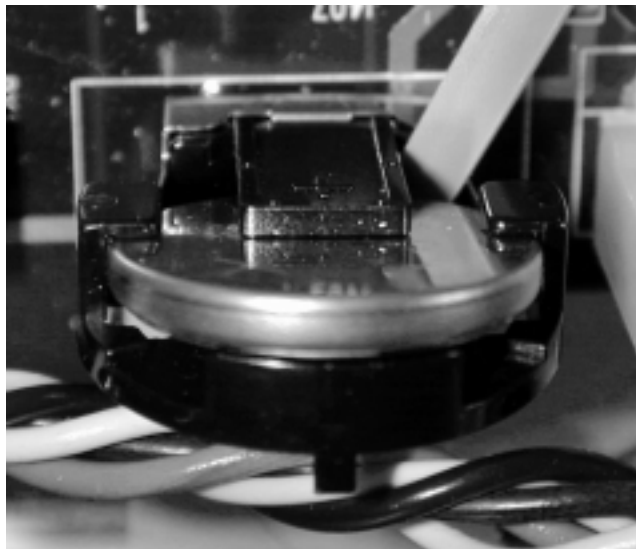

Figure 5-2 **Removing battery**
3. Insert your fingernail, the plastic knife, or the pen cap behind and under the battery, and lift the battery out, as shown in Figure 5-2.